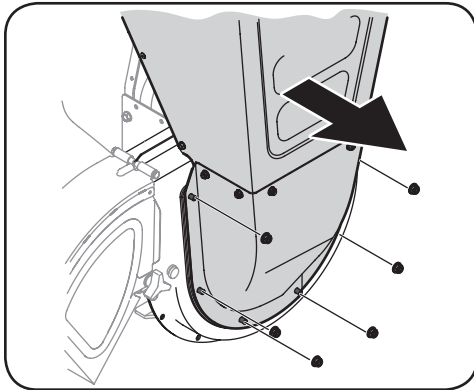

Figure 5-7
5. Remove six flange nuts which secure hopper inlet guide to impeller housing. See Figure 5-7.